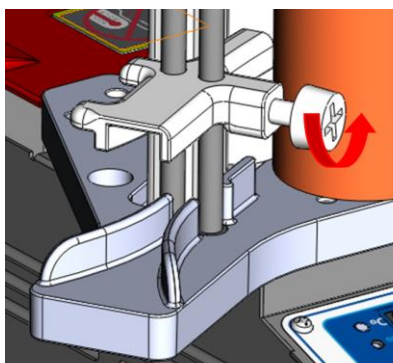

Fig4
- Loose screw (Fig4) and insert a sample edge into side of the hold-down clamp.